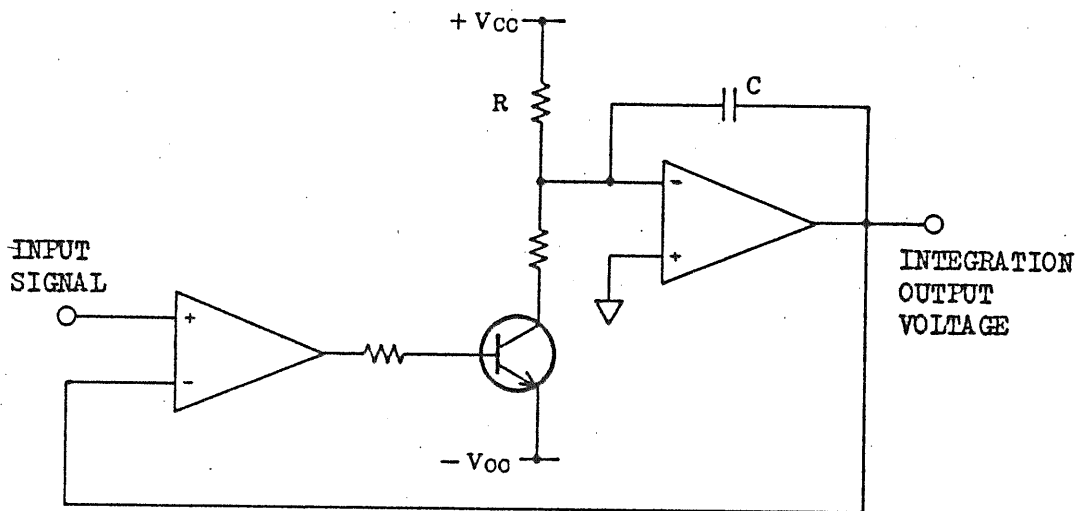
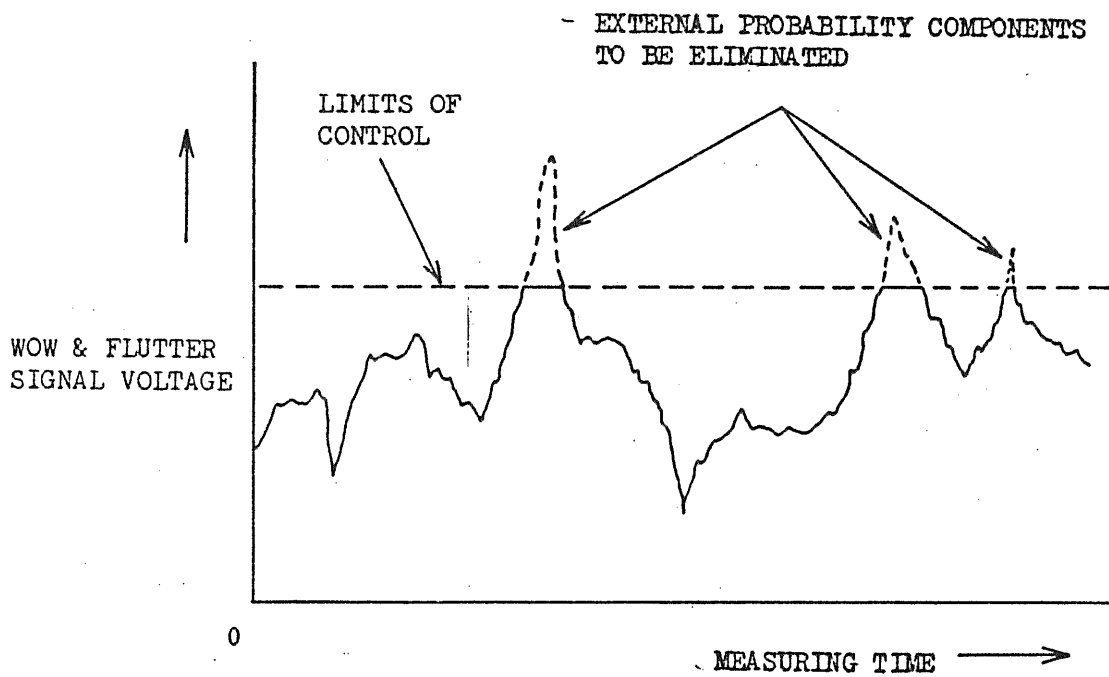

Figure 4-3 Sigma operation circuit
Figure 4-4
Figure 4-3 shows a basic circuit for voltage measurement (sigma operation) basing on the characteristics of the normal distribution. Integration constant (RC) is selected by (27) "SIGMA (σ)" switch in order to determine the components of wow and flutter to be eliminated and the remaining components are integrated to obtain the maximum value. Processing of the wow and flutter signal by sigma operation circuit is illustrated in Figure 4-4.